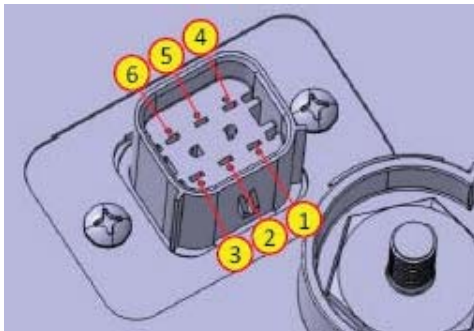

Figure 17
- **Subsystem:** DCDC connector X040 (Figure 17).